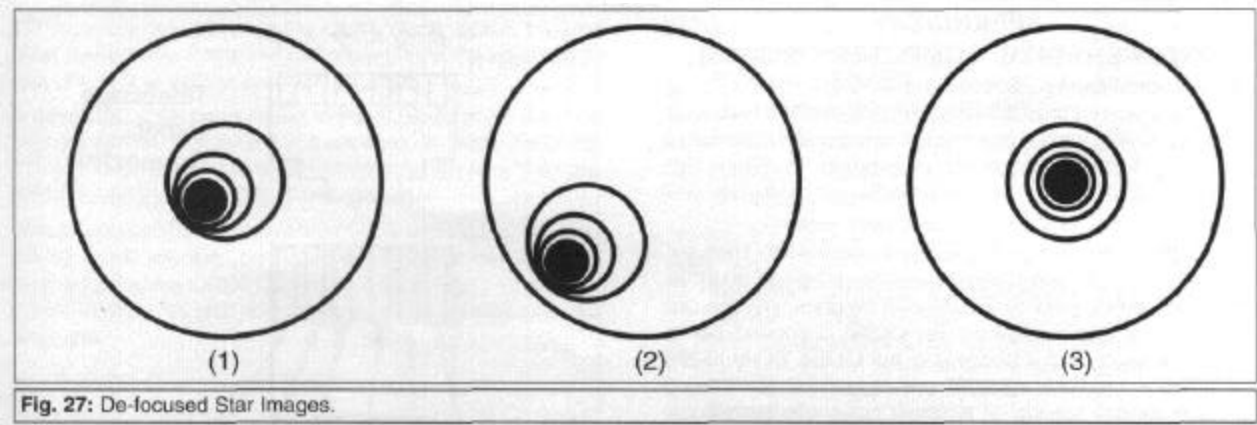

Fig. 27: De-focused Star Images.
- b. While looking at the de-focused star image and noticing which direction the darker shadow is offset in the ring of light or noticing which part of the ring is the thinnest (1, Fig. 27), place your index finger in front of the telescope so that it touches one of the Collimation set screws. You will see the shadow of your finger in the ring of light. Move your finger (or an assistants finger) around the edge of the black plastic secondary mirror support until you see the shadow of the finger crossing the thinnest part of the ring of light. At this point, look at the front of the telescope where your (or your assistants) finger is aiming. It will either be pointing directly at a set screw, or it will be between two set screws aiming at the set screw on the far side of the black plastic secondary mirror support. This is the set screw that you will adjust.
- c. Using the telescope's slow motion controls, move the de-focused image to the edge of the eyepiece field of view (2, Fig. 27), in the same direction as the darker shadow is offset in the ring of light.
- f. When you bring the image to center (3, Fig. 27), carefully examine the evenness of the ring of light (concentricity). If you find that the dark center is still off in the same direction, continue to make the adjustment in the original turning direction. If it is now off in the opposite direction, you have turned too far and you need to turn in the opposite direction. Always double check the image in the center of the field of the eyepiece.